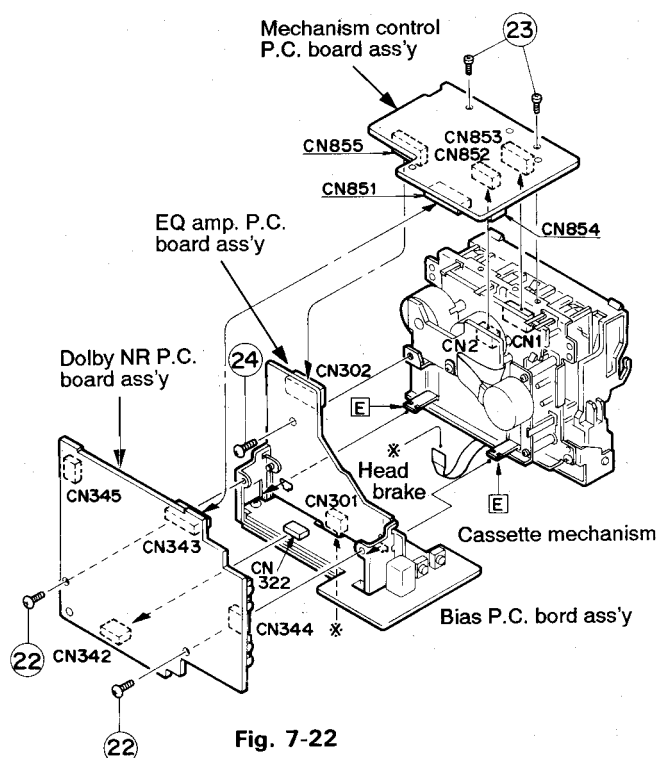
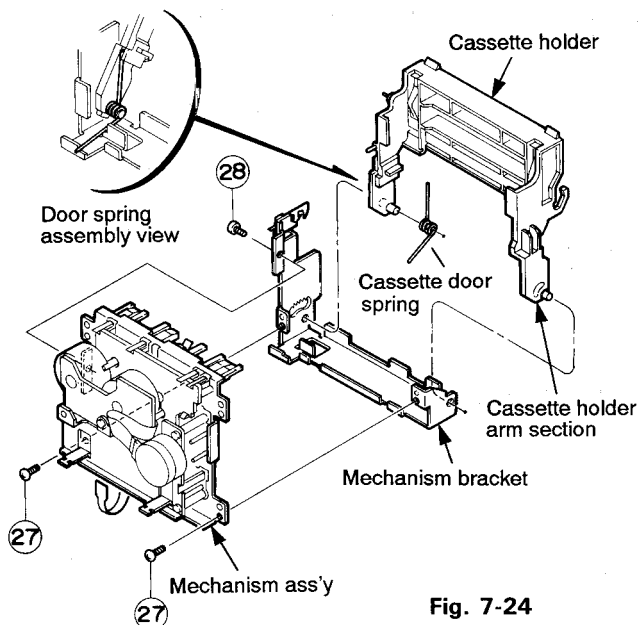

Fig. 7-22
Fig. 7-24
■ How to Remove the Dolby NR P.C. Board (Refer to Figs. 7-22 and 7-23)
4. Remove the two screws (22) retaining the Dolby NR P.C. board.
■ How to Remove the Mechanism Control P.C. Board (Refer to Figs. 7-22 and 7-23)
1. Remove the two screws (23) retaining the mechanism control P.C. board.
■ How to Remove the Equalizer amplifier P.C. Board and Bias P.C. Board (Refer to Figs. 7-22 and 7-23)
2. Remove the one screw (24) retaining the equalizer amplifier P.C. board.
3. Remove the two protrusions (E) on the cassette mechanism retaining the equalizer amplifier P.C. board.
4. From the P.C. board bracket, remove the two screws (25) retaining the equalizer amplifier P.C. board.
6. From the P.C. board bracket, remove the one screw (26) retaining the bias P.C. board.
■ How to Remove the Cassette Holder (Refer to Fig. 7-24)
2. From the chassis base, remove the three screws (37) retaining the FM bracket ass'y (Refer to Fig. 7-24).